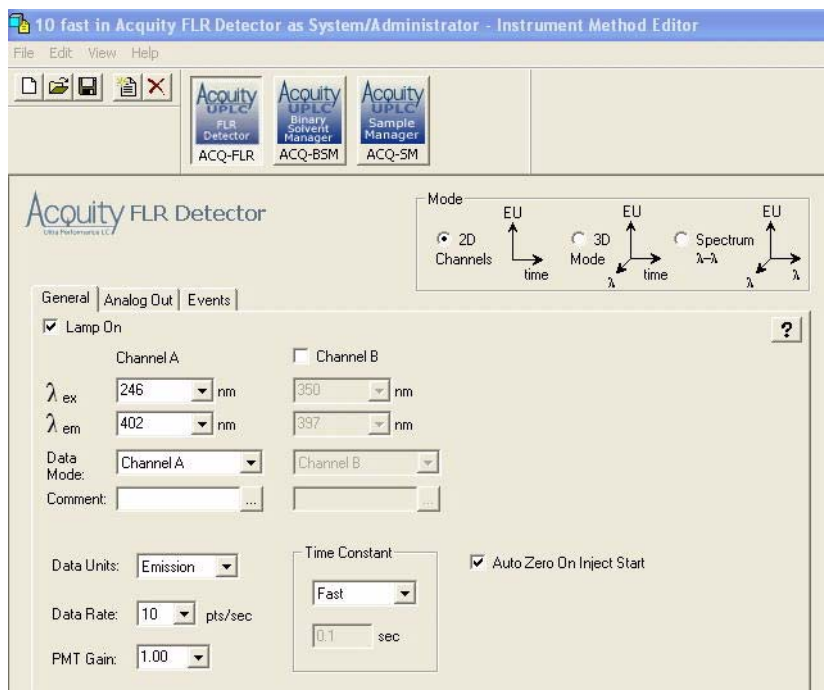

Figure 7 - System Precision Parameters for the FLR
1. In Empower software, create an Instrument Method with the parameters shown in Figure 1 through Figure 7, as appropriate for your instruments.
If using the FLR, create an Instrument Method with the following parameters for the system precision test (Figure 7).